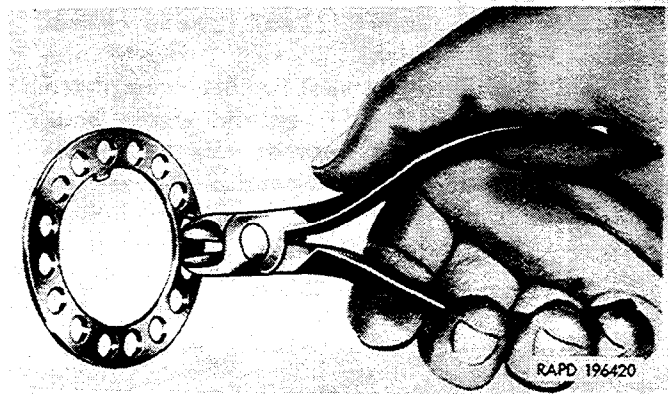

Figure 2-136. Removing or installing adjusting nut lock.
(2) Remove the adjusting nut lock, using diagonal-cutting pliers (fig. 2-136).